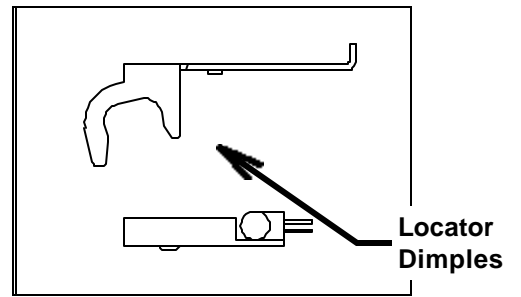

Figure 4
10. Install the new printhead by first properly seating it onto the locator dimples (Figure 4), then by tightening the screws. **IMPORTANT: Make sure that the printhead is properly seated on the dimples. Failure to do this will cause poor print quality and coupon jamming.**